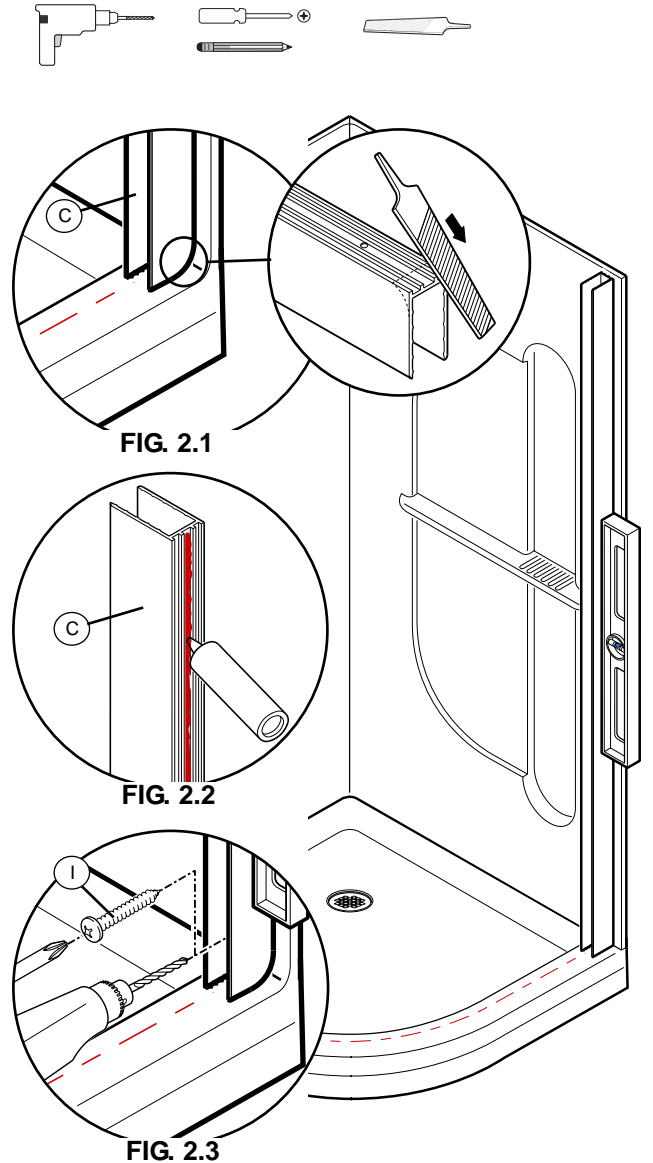

FIG. 2
- First of all, determine the opening direction of the door. To ensure that the shower is watertight, the fixed panel (D) must face the showerhead. Fig. 2.